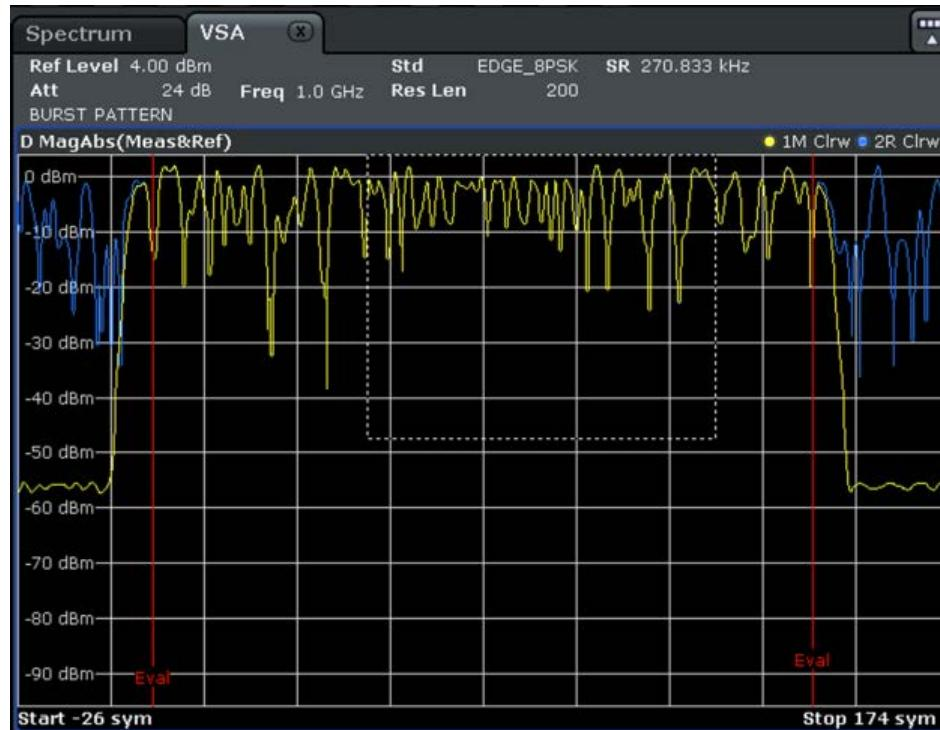

Fig. 8-13: Zooming
4. Select "Clear Write" as the "Trace Mode" and "Evaluation: Ref". This adds a second trace to your result display. This trace is the ideal reference signal that can now be compared to the measurement signal (see figure 8-13).
5. To view the traces in more detail, enlarge the window using the "Split/Maximize" key (■+□), and zoom into the display using the  icon in the toolbar (see the dotted rectangle in figure 8-13).